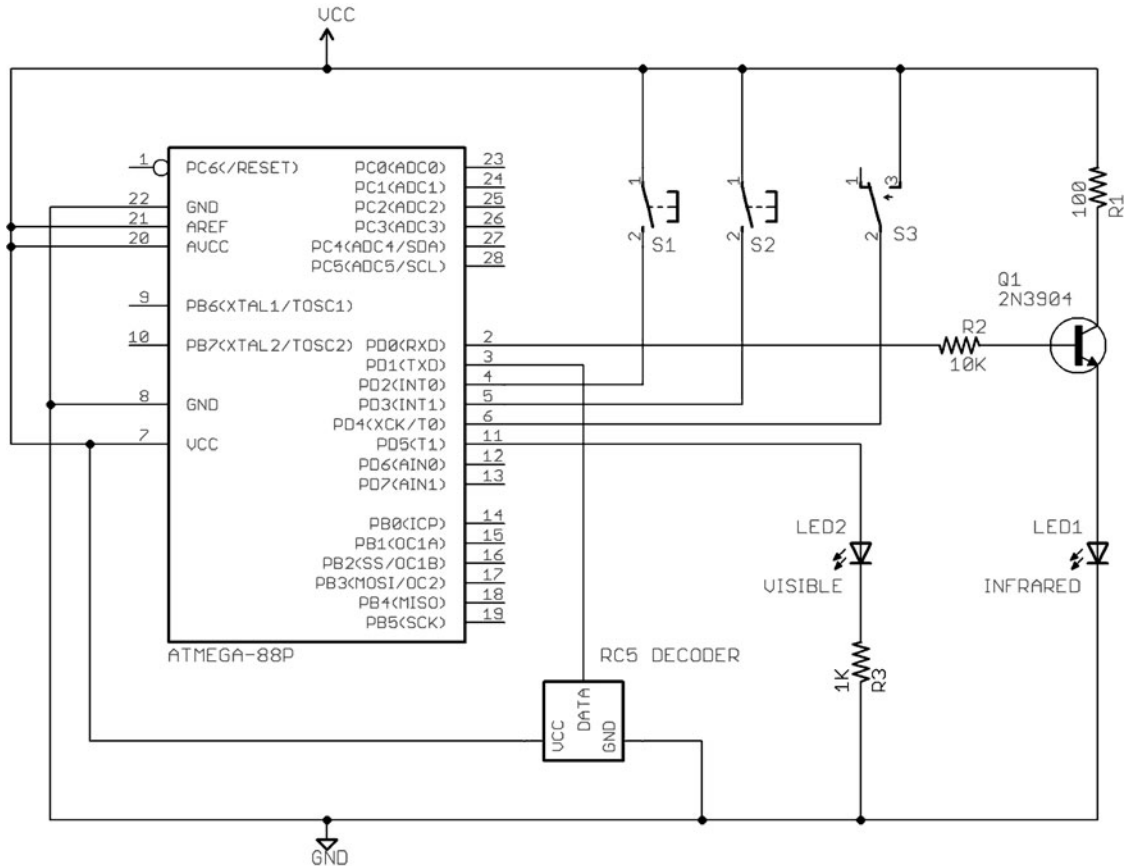

Figure 18-6 The Remote Control Hijacker Schematic.
Having a very basic schematic and using a microcontroller programmed in C allows the use of just about any microcontroller with a bit of internal SRAM and a few input/output (IO) lines (Figure 18-6). Only five IO lines are needed for the basic version: a digital input for the RC5 decoder, an output for the infrared LED, an output for the visible indicator LED, and two pushbutton inputs. The output to the infrared LED is amplified through an NPN transistor to offer a bit more range, but it will also work if you just push the LED directly with the output pin of the microcontroller through a 500-ohm to 1-K resistor. The timing has been calculated using an 8-MHz clock source so that the ATmega88 that we are using can run from its internal oscillator, further reducing the parts count.